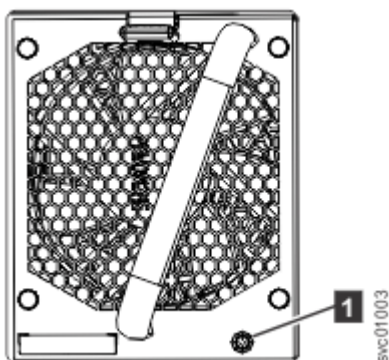

Figure 156. Fan module LED
1. Identify the fan module to be replaced. When lit, the amber LED on the front of the fan module (1 in Figure 156 on page 203) identifies a fault.